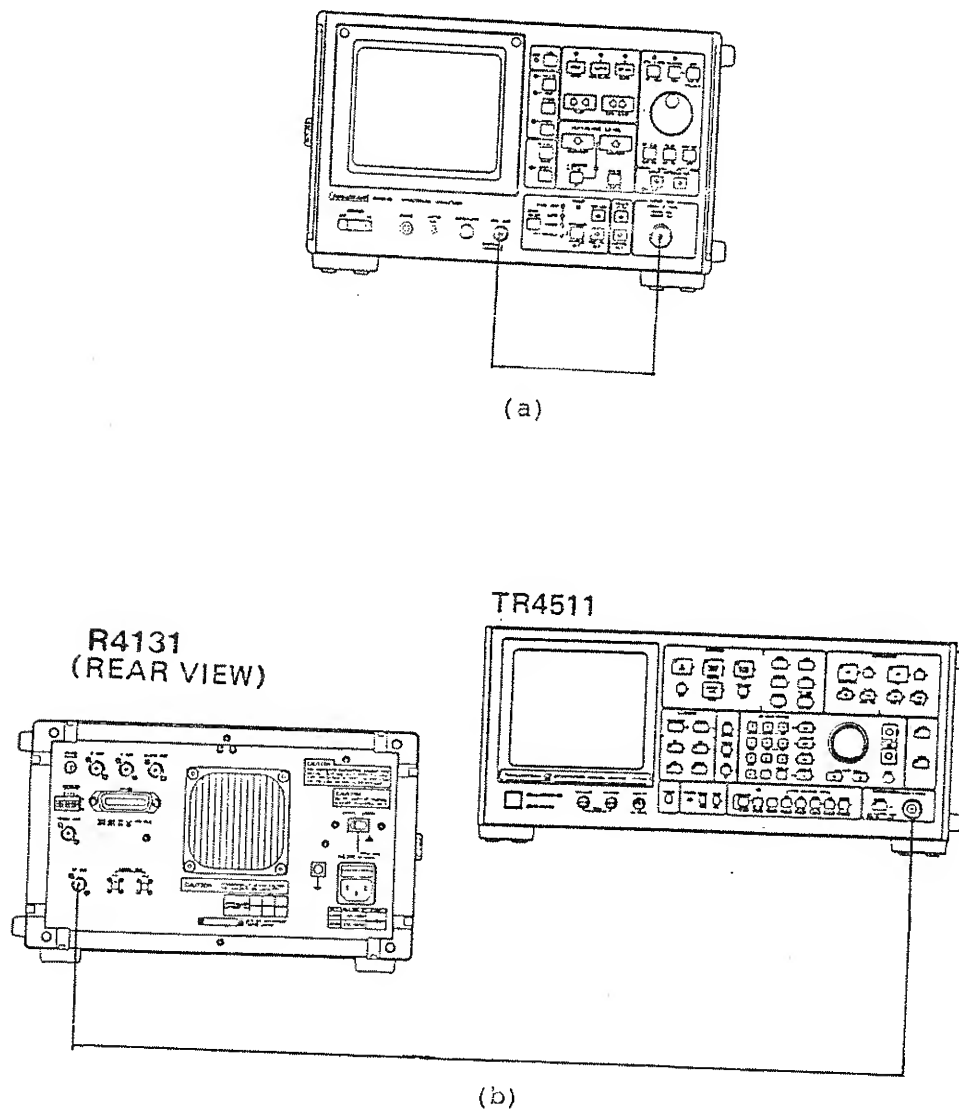

Figure 11-12 Resolution Bandwidth Accuracy Test Setup
(2) Procedure
- ① Connect the calibration signal of the spectrum analyzer to the INPUT connector as shown in Figure 11-12 (a).
- ⑧ In testing resolution bandwidths 3 kHz to 1 kHz, remove the top cover of the spectrum analyzer and apply 3.58 MHz, -20 dBm signals to the IF FILTER IN connector from the synthesized signal source. (See Figure 11-12 (b).)
- ⑨ Set the spectrum analyzer resolution bandwidth to 3 kHz and adjust the output frequency of the synthesized signal source for the maximum waveform peak by varying the output frequency at the 10 Hz place.
- ⑩ Adjust the output level of the synthesized signal source to bring the spectrum analyzer display level to 1.5 divisions above the horizontal axis in the center of the display screen.
- ⑪ Reduce the output frequency of the synthesized signal source until the waveform peak displayed on the display screen coincides with the horizontal axis in the center of the display screen. Record this output frequency as f_1 .
- ⑫ Next, increase the output frequency of the synthesized signal source until the waveform peak rises once above the horizontal axis in the center of the display screen, and then correspondingly falls. Record this output frequency as f_2 .
- ⑬ Determine the 3 dB bandwidth by calculating f_2 minus f_1 . Check that this value falls between 2.4 and 3.6 kHz (3 ± 0.6 kHz or less).
- ⑭ Test resolution bandwidths 1 kHz according to Table 11-5. Keep records of the resultant 3 dB resolution bandwidth values for use in the resolution bandwidth selectivity test described in Section 11.8.
- ④ Turn the AMPTD CAL control to bring the signal peak to the top graticule on the display screen.
- ⑤ Turn the TUNING dial to position the 60 dB point for the best reading.
- ⑥ Measure and record the 60 dB bandwidth. Check that the ratio of the 60 dB bandwidth to the 3 dB bandwidth measured in Section 11.7 is 15 or less.
- ⑦ Repeat steps ③ to ⑥ for resolution bandwidths of 300 kHz to 10 kHz as well.
- ⑧ Connect the output of the synthesized signal source to the spectrum analyzer IF FILTER IN connector as shown in Figure 11-12 (b).
- ⑨ Set the output frequency of the synthesized signal source to 3.58 MHz (CW), -20 dBm.
- ⑩ Adjust the output frequency of the synthesized signal source for a maximum reading on the R4131 display screen, and set the signal to be on the reference graticule.
- ⑪ Increase the output frequency of the synthesized signal source until the signal level is reduced 60 dB (6 graticules).